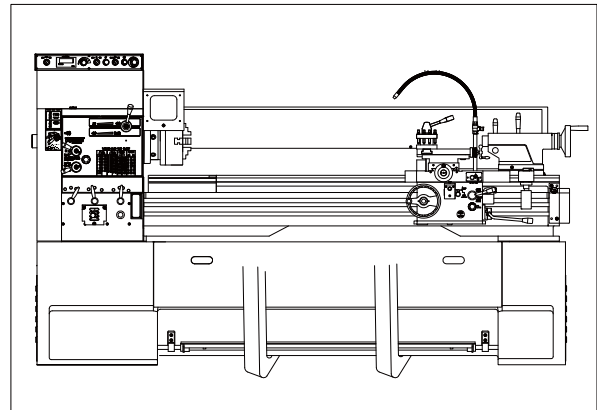

Figure 12. Moving the machine with a forklift.
7. Moving the machine with a forklift. (Figure 12)